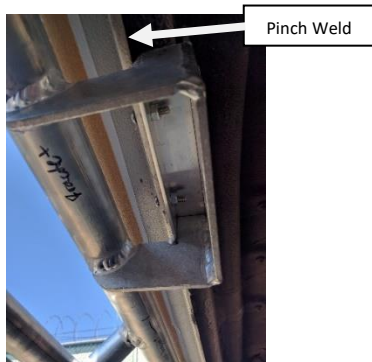

Figure 5: Placement of Bracket Around the Pinch Weld
6. You will now through bolt the bracket to the pinch weld of the vehicle using the 1/4"-20 x 1" bolts, two 1/4" washers per bolt, and 1/4"-20 nylock nuts. Drill two holes through each bracket and into the pinch weld with a 1/4" drill as shown in **Figure 5**. You will want to be careful not to drill too high where you won't be able to get the washer on the bolt, or too low where you don't catch all of the pinch weld with the hole.